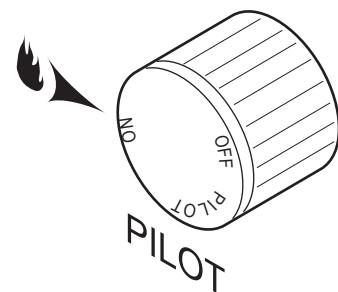

Figure 48 -
Depress and turn the knob counterclockwise ↙ to the “ON” position. *Figure 48*. It will take less than four (4) seconds for the burner to ignite.